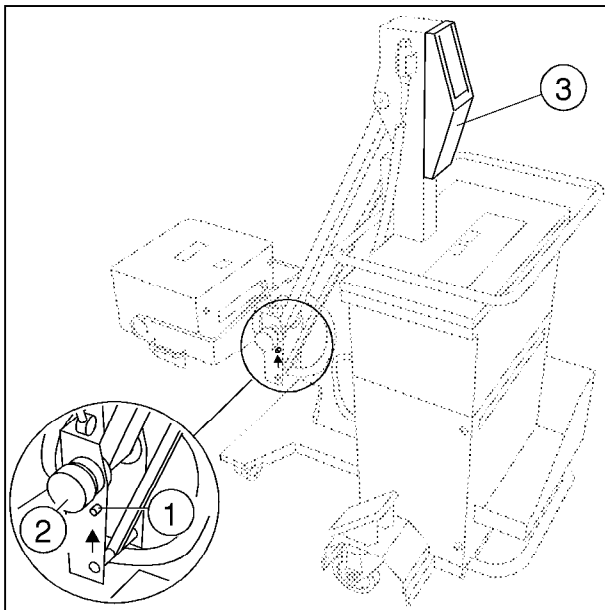

Fig. 2
- Unlock the support arm (1/Fig. 2) and loosen the knob (2/Fig. 2). The support arm **without** attached accessories should move through the entire range easily and should stop in any position. ➤
- Remove the cover (3/Fig. 2) from the stand.
- Release the supplemental brake on the support arm (2/Fig. 2).